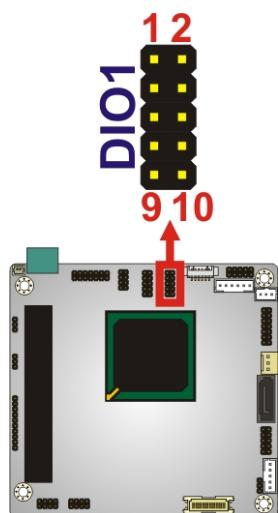

Figure 3-6: Digital I/O Connector Locations
**CN Location:** See Figure 3-6